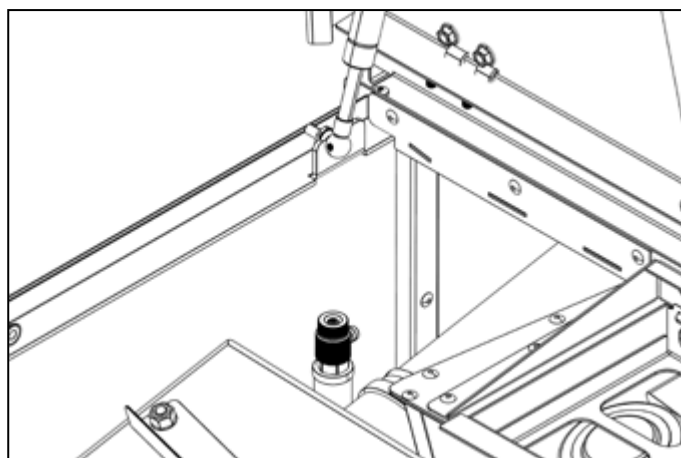

Figure 12-1: Location of manual air vent (water connection to wash system removed for clarity)
- Manual air vent. Refer to Figure 12-1.